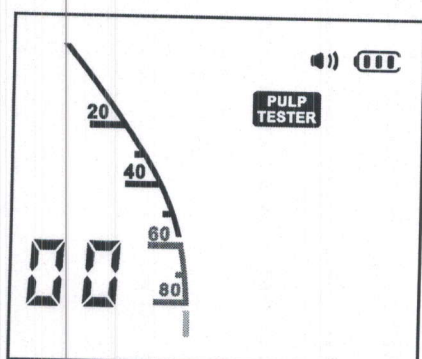

Fig.33
- 3) Switch to pulp tester mode by successive presses on the MODE SWITCH button, visual information appears, **PULP TESTER** appear indicates that the pulp tester is ready for use (Fig.33).